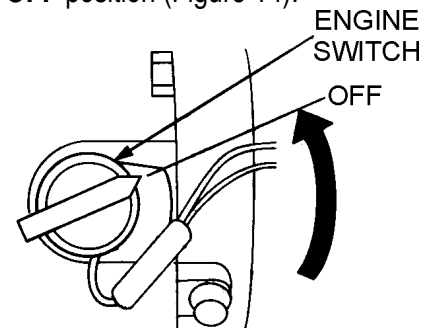

Figure 14. Engine ON/OFF Switch (OFF Position)
- After the engine cools, turn the engine ON/OFF switch to the **OFF** position (Figure 14).